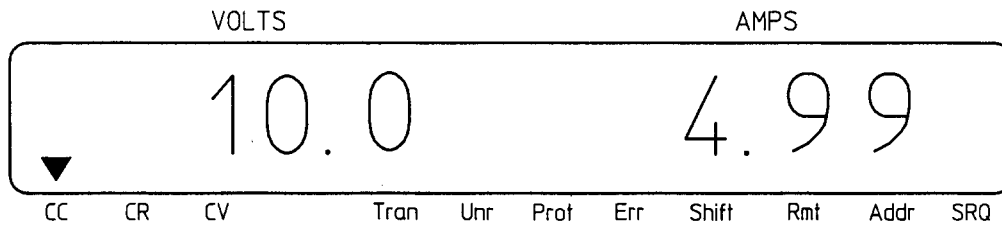

Figure 3-6. Power Test Display
4. Observe that the Electronic Load is drawing 5 A and is operating in CC mode. The power supply should be operating in CV mode. The Electronic Load front panel display should appear about the same as the one shown in Figure 3-6.